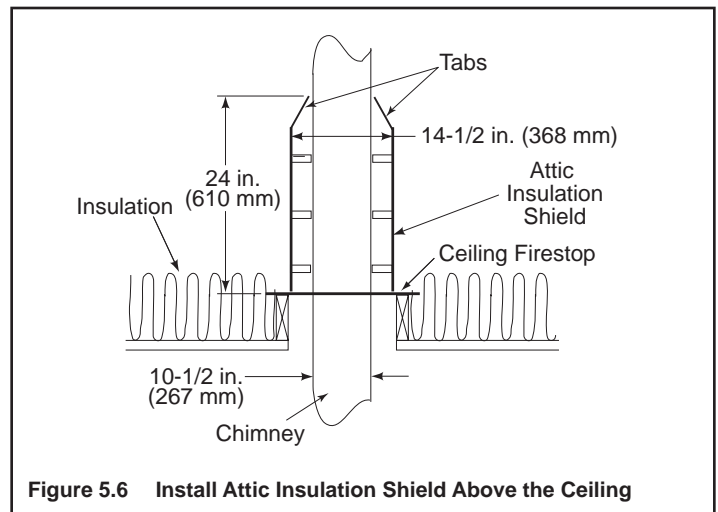

Figure 5.6 Install Attic Insulation Shield Above the Ceiling
- Slide the shield down until it rests on the ceiling firestop. The ceiling firestop will support the insulation shield. See Figures 5.6 and 5.7.